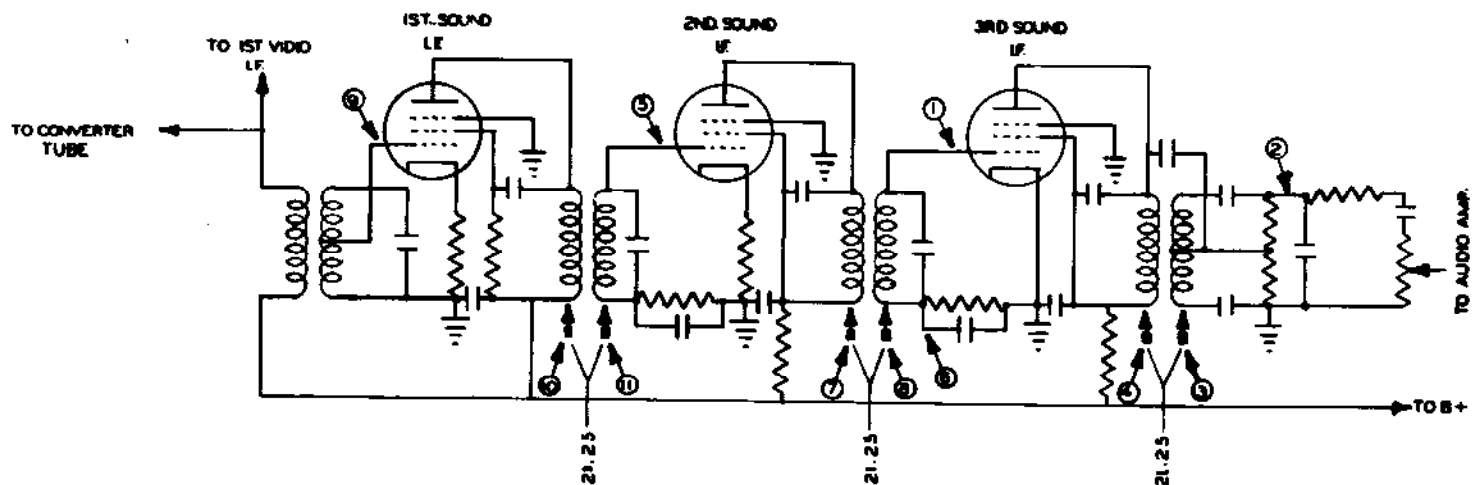

Figure 10. Typical Sound I. F. System
- a. Connect TVG-2 output high side to the grid of the 3rd IF tube (Point 1 of Figure 10) through a .01 mfd. condenser, and the low side to "ground."